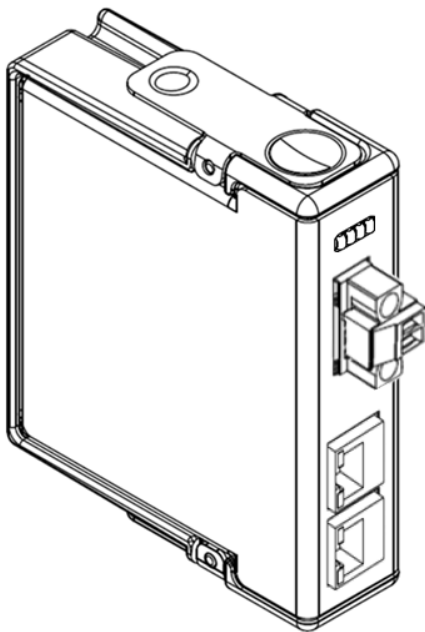

Figure 1: cRIO ECAT S Module
2. Align the module (1) with an I/O module slot (3) in the chassis as shown in Figure 1. The module slots are labeled beginning from 1, left to right. The number of module slots depends on the cRIO chassis type.
3. Squeeze the latches (2) and insert the module into the module slot.
4. Press firmly on the front side of the module until the latches (2) lock the module into place.